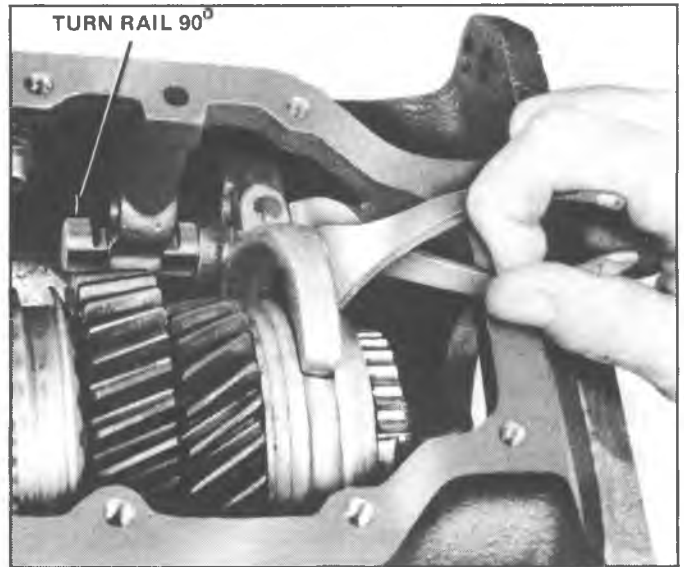

Fig. 9R--Rotating Shift Rail
15. Shift Second-Third Shifter fork rearward to gain access to setscrew, remove setscrew, rotate shift rail 90° with pliers to clear bottom detent plug and remove interlock plug with magnet (fig. 9R).